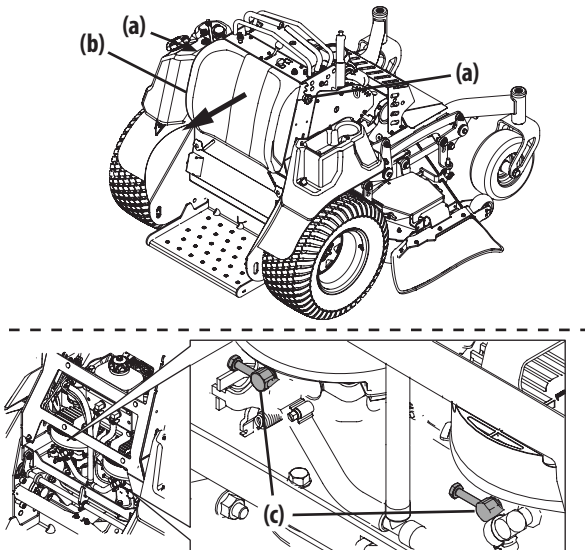

Figure 25
1. Loosen the two star knobs (a) securing the leg pad (b) to the mower (Figure 25).
4. Locate the hydrostatic transmissions and open the two bypass valves (c) a maximum of two turns (Figure 25).